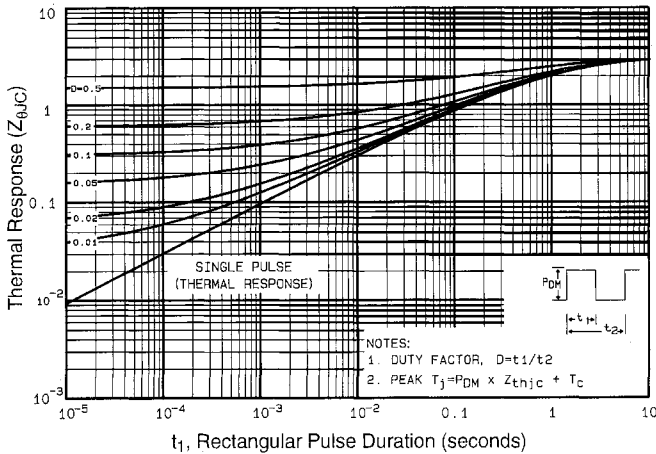

Fig 11. Maximum Effective Transient Thermal Impedance, Junction-to-Case
- ① Repetitive rating; pulse width limited by max. junction temperature (See Figure 11)
- ② $V_{DD}=25V$, starting $T_J=25^\circ\text{C}$, $L=85\mu H$